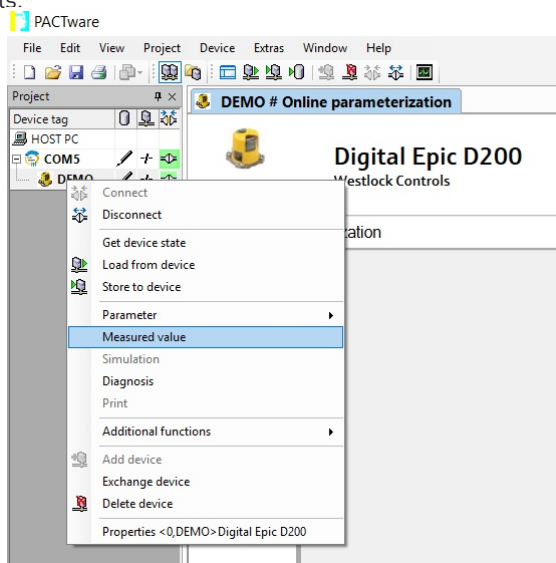

Figure 12: Accessing Measured Value
1. In the Project Window, right click on Digital EPIC D200 as shown in **Figure 12**. Select *Measured Value* to launch the screen.